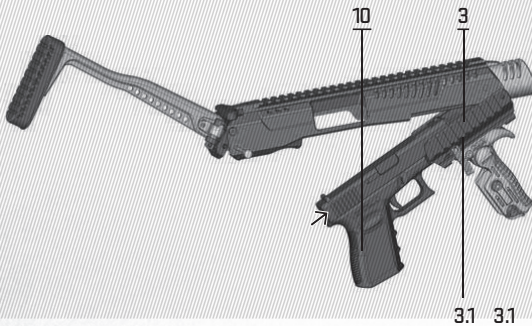

Fig 5
Step 2. Slide your Pistol (10) into the Handguard (3) so the Pistol Rail Grooves will fit securely into the Handguard's Rails (3.1) (Fig 5).